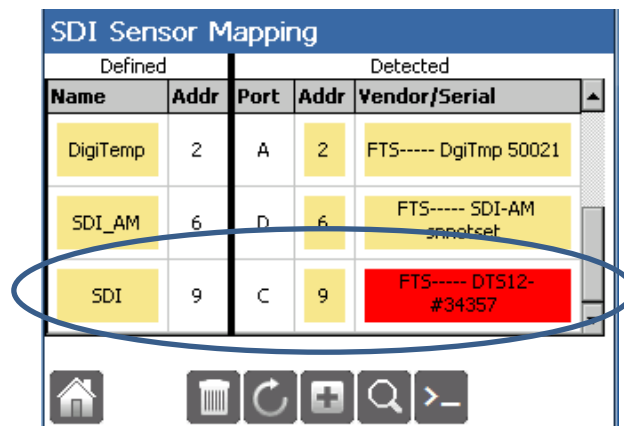

Figure 4-12: Added sensor – mapping incomplete
3. You will be returned to the SDI Sensor Mapping Screen where the newly added sensor will appear, but mapping is not yet complete (Figure4-12).